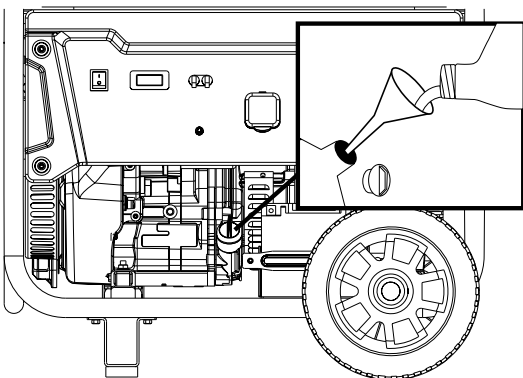

Figure 16 - Oil Fill Plug/Dipstick
5. Remove oil fill plug/dipstick (see Figure 16 below).